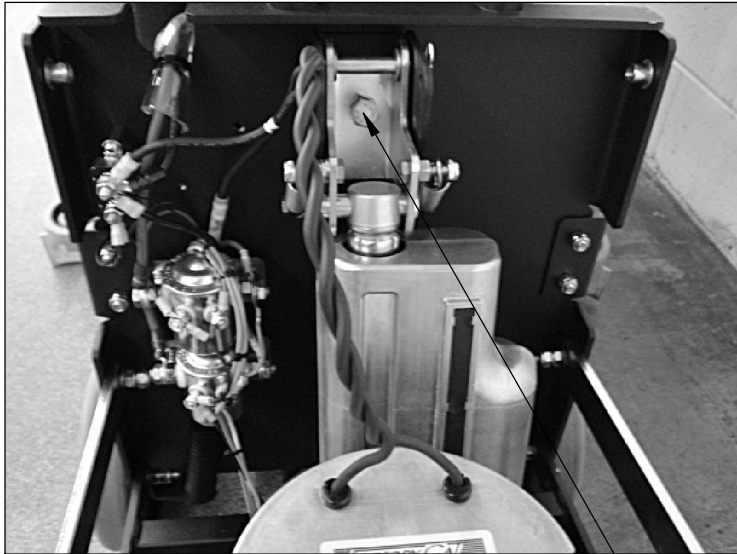

FIGURE 33.
1. TO ADJUST DECK HEIGHT FOR BRUSH CLEARANCE, TURN ADJUSTMENT BOLT "A" CLOCK-WISE TO RAISE DECK, COUNTER-CLOCKWISE TO LOWER DECK. (SEE FIGURE 33.)